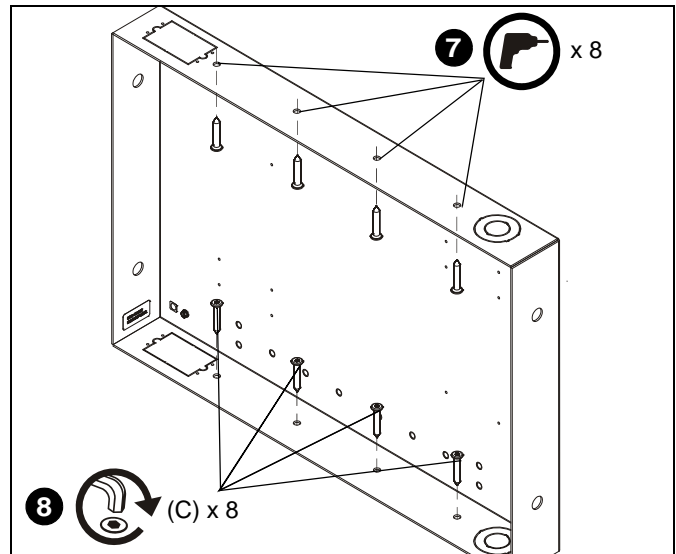

Figure 5
- Drill eight 3/16" diameter pilot holes in horizontal framing at top and bottom mounting holes. (See Figure 5)
- Attach the PAC502 (A) to horizontal framing using eight M7 x 40mm Allen head connector screws (C) using an M4 Allen head drill bit (F). (See Figure 5)